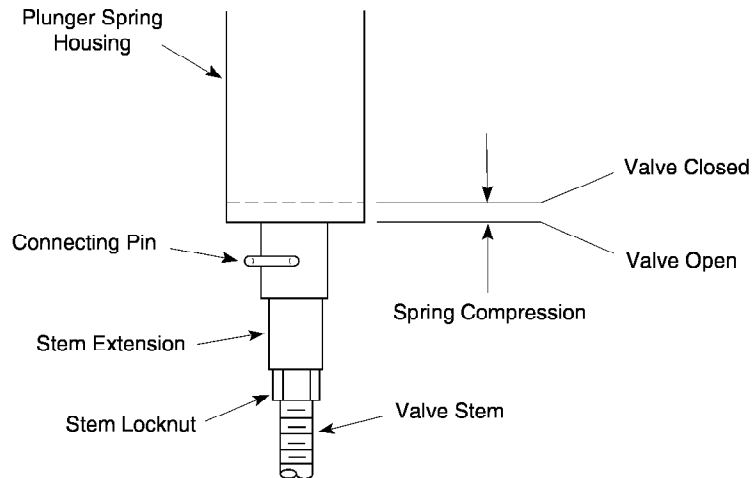
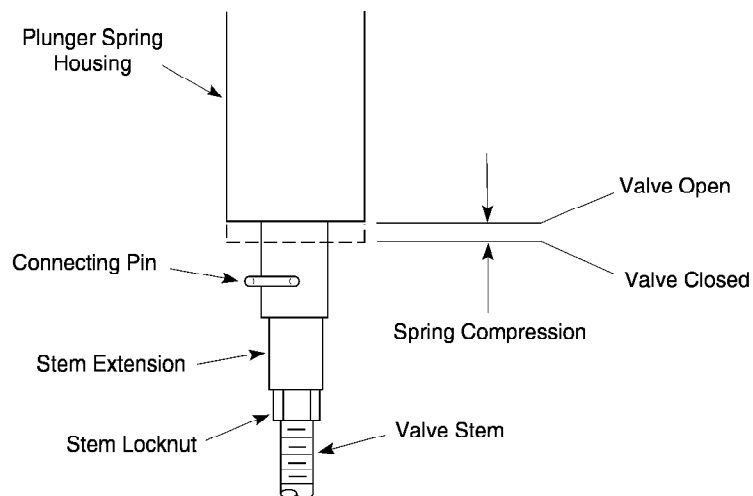

Figure-6 Valve Compression Stem Up.
Figure-7 Valve Compression Stem Down.
1. Drive the actuator so that the valve stem is fully up. If the valve is a three-way, check for plunger compression. See Figure-6.
2. Drive the actuator so that the valve stem is fully down. Check for plunger compression. See Figure-7.
Note: Check the plunger spring compression, refer to Figure-6 and Figure-7. The length of the stem extension should be adjusted so that the valve disc seats before the actuator reaches the end of the closing stroke. The balance of the actuator stroke is taken up in the plunger spring compression, which should be approximately 1/16" (1.6 mm). This provides pressure on the disc in the closed position(s) and also compensates for disc and seat wear. On three-way valves, spring compression must be provided on both upper and lower seats.